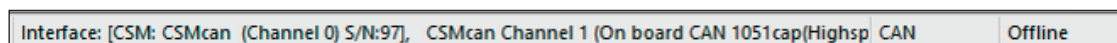

Fig. 5-15: Status bar: "CAN interface"
- ☞ If an interface is displayed in the status bar (Fig. 5-15), continue with chapter 5.4.3.4 "Creating a new configuration file".